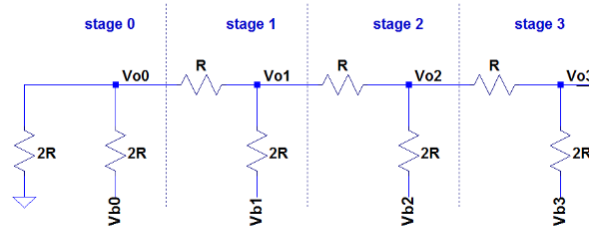

Figure 5: Load of R-2R ADC
**A5** As shown in Fig 5, first we calculate the equivalence seen from  $V_{o3}$ ,